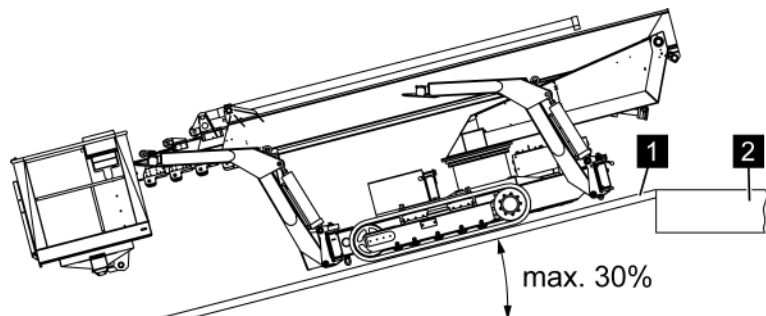

Fig. 43: Transport on a trailer
1. ➤ *Move the aerial access platform in reverse on the ramps (Fig. 43/1).*
2. ➤ *When the machine begins to tip on the loading area (Fig. 43/2), slow down.*
When the aerial access platform has been set completely on the loading area (Fig. 43/2) with the chains, it is safe to speed up again.